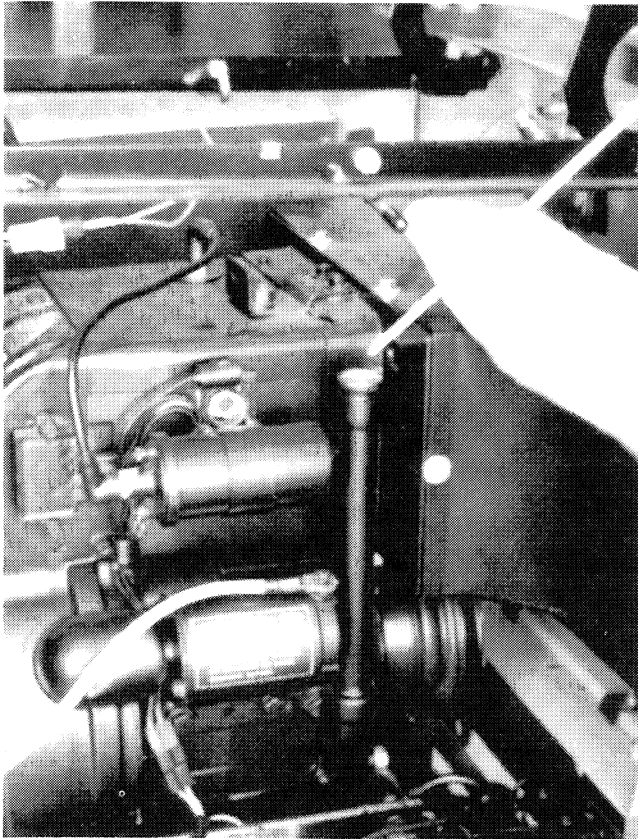

**Figure 1 (10, 12, 14 & 16 H.P.)
2. Remove dipstick, *figure 1* 10, 12, 14 & 16 H.P., *figure 2* 19.5 H.P..